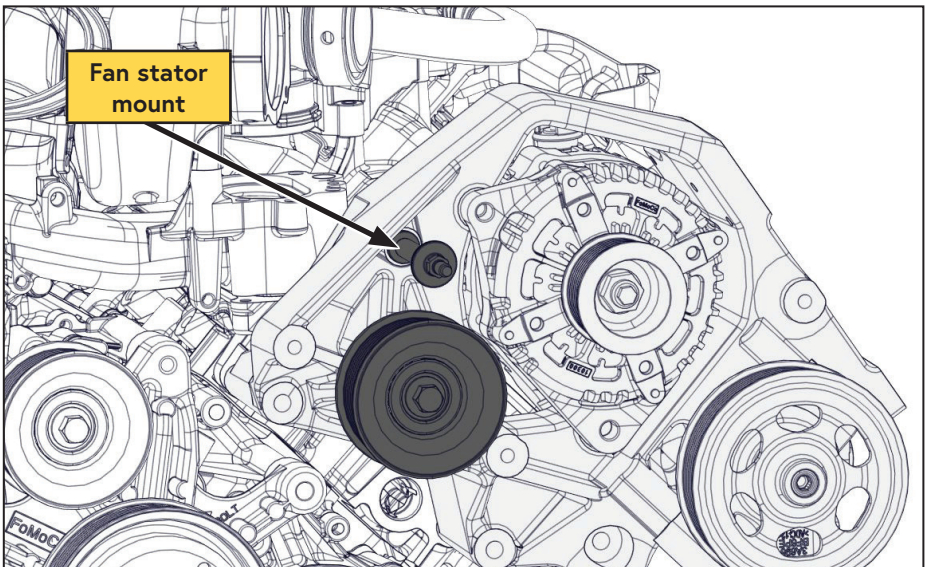

Figure 51 — Installing the stator mount
- ☐ Install the OEM idler onto the VMAC main bracket in the location noted when the idler was removed (Figure 51).
- ☐ Install the stator mount onto the VMAC main bracket (Figure 51).